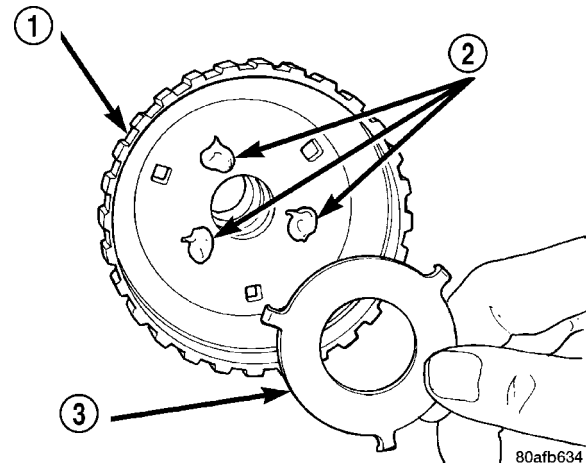

Fig. 252 Install No. 3 Thrust Plate
(40) Install the #3 thrust plate to the bottom of the overdrive shaft assembly. Retain with petrolatum or transmission assembly gel (Fig. 252).